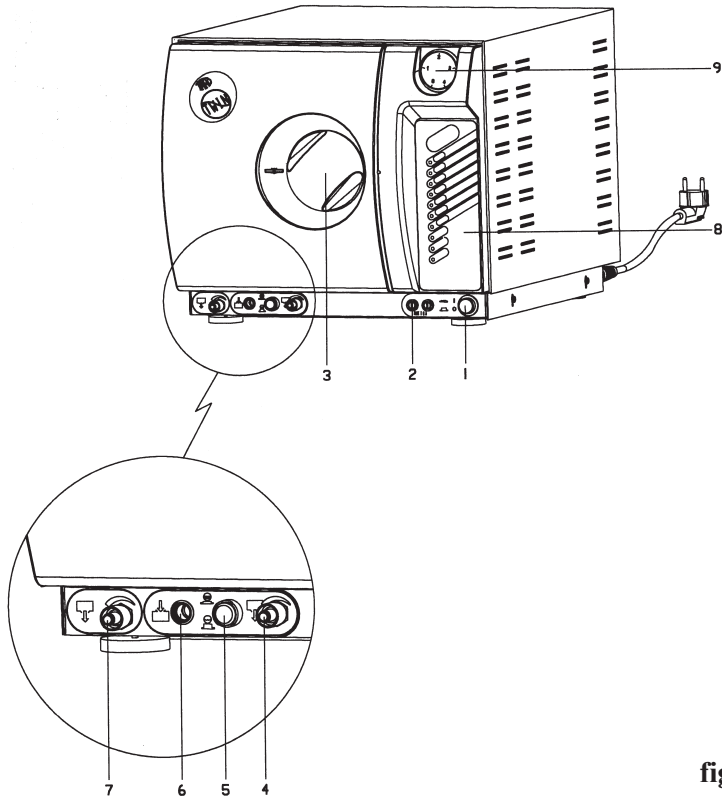
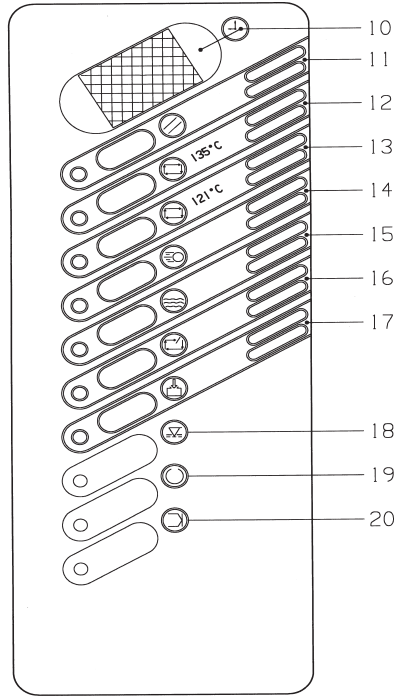

fig. 1
fig. 2
8. Control panel (see fig. 2, page 29)
- ⇒ Open door by turning handle **3** counterclockwise (fig. 1, page 28) and withdraw contents of chamber.
- **Press the luminous main switch 1** (fig. 1, page 28). The notice **Pr** appears on the display and the **RESET** warning light **11** lights up.
- Open door by turning **handle 3** counterclockwise (fig. 1, pag. 28).
- Fill the **filling tank** with **distilled water** or **Composite** solution using the tube supplied. Insert the tube part with quick connector in the connector provided **6** (fig. 1, page 28) and the other end in the can. Press **LIQUID FILL** push-button **17** (fig. 2, page 29). When **MAXIMUM LEVEL** warning light **17** goes on the fill pump stops automatically
- Select liquid with **switch 5** (fig. 1, page 28).
- Close the door by turning handle **3** clockwise (fig. 1, page 28). The programmed cycle is performed automatically.
- Before setting desired cycle make sure the liquid in the fill tank is the liquid selected with switch 5 (fig. 1, page 28). In case of doubt it is advisable to empty the fill tank completely using the drain tap 4 (fig. 1, page 28) and fill it with the selected sterilization liquid.
## **PROGRAMS** (symbols page 29 - fig. 2)
- If it becomes necessary to clean the sterilization chamber, turn off the main switch **1** (fig. 1, page 28) and allow chamber to cool.
- ⇒ Turn off main switch **1** (fig. 1, page 28).